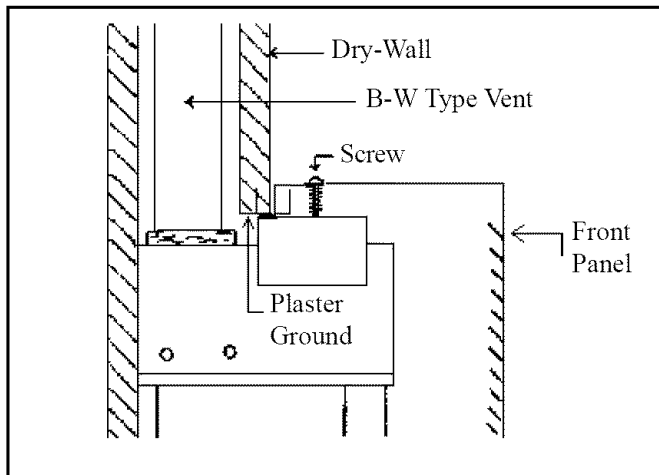

FIGURE 5A - DRY WALL
**STEP 10.** To fasten front panel to furnace, be sure exposed portion of header is free of debris and plaster. Place outer panel over furnace with top of panel about one inch above header and centered in opening. Keep front panel flush to finished wall and slide down until rear flange of top outer panel is wedged tight with header and flush with wall. Open bottom door of front panel and place sheet metal screw into locking latch. Secure top of front panel to header plate with screw provided. This will hold front panel securely to wall. See Figures 5A, 5B, (See Page 7), and 5C.